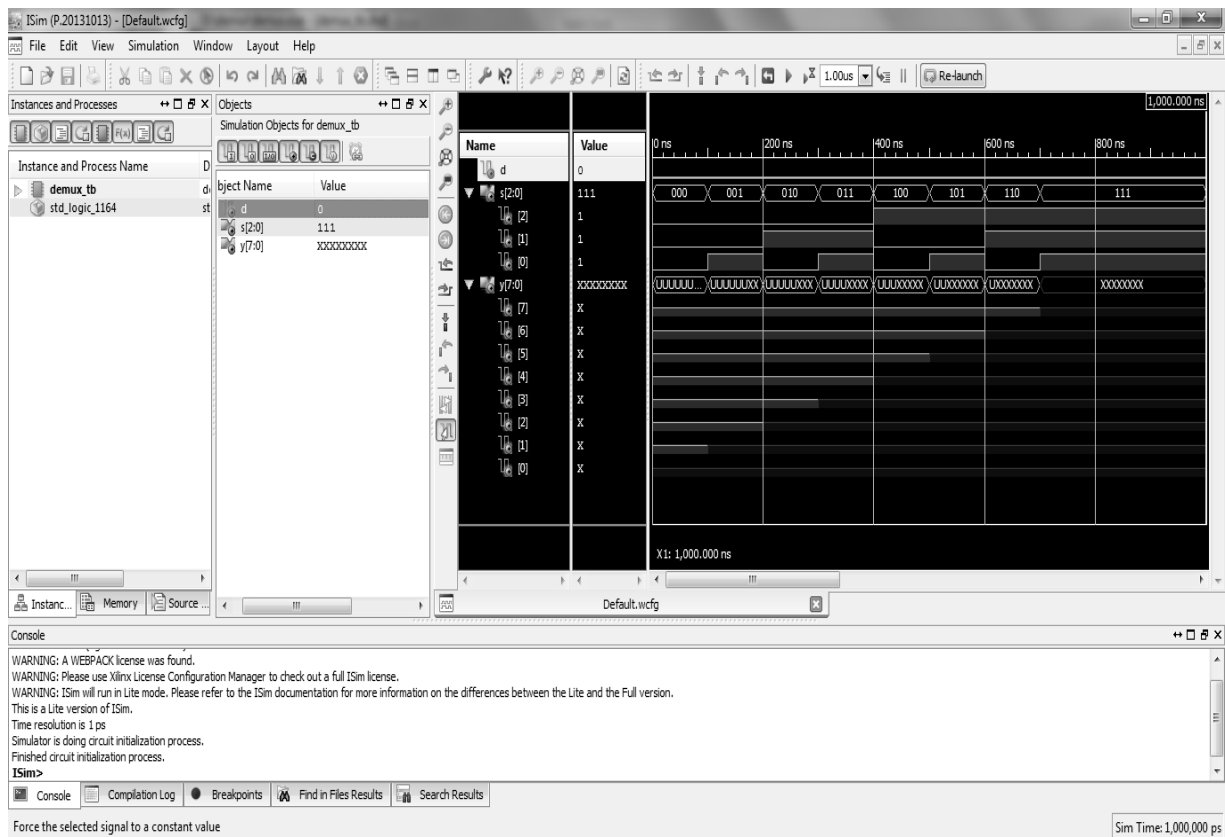

Fig 7.6 Demux Simulation output
9. ISim simulator window will open with your simulation executed, as shown in Fig. 7.6. where you are able to simulate your designs and check for errors.